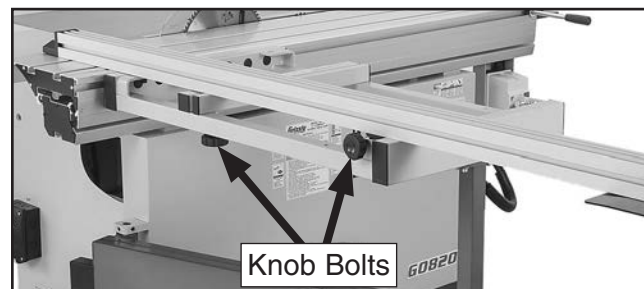

Figure 93. Locations of knob bolts securing crosscut fence.
2. Unthread and remove knob bolts shown in **Figure 93**.